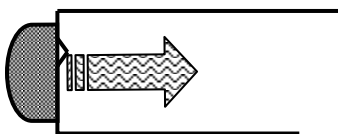

Figure 4
- Bolt ends with recessed grademarks, as shown in Figure 4. Couplant can be used to fill small recessed grademarks. Small indentations cause some loss of signal strength, but normal measurement is still possible. Large or numerous indentations cause the signal to be too weak for reliable measurement.